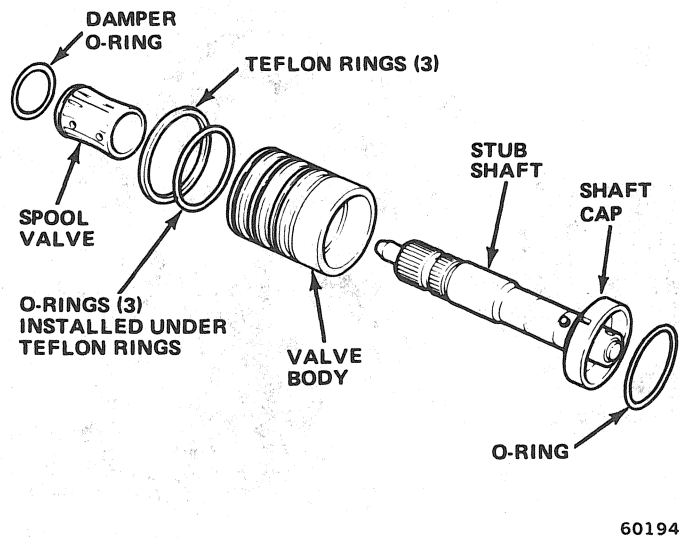

Fig. 2L-27 Valve Body Components
(1) Remove and discard stub shaft cap O-ring (fig. 2L-27).
(2) Hold valve body assembly in both hands with stub shaft pointing downward. Tap end of stub shaft lightly against wood block until shaft cap is free of valve body (fig. 2L-28).
(3) Pull stub shaft outward until shaft cap clears valve body by approximately 1/4 inch (6 mm).